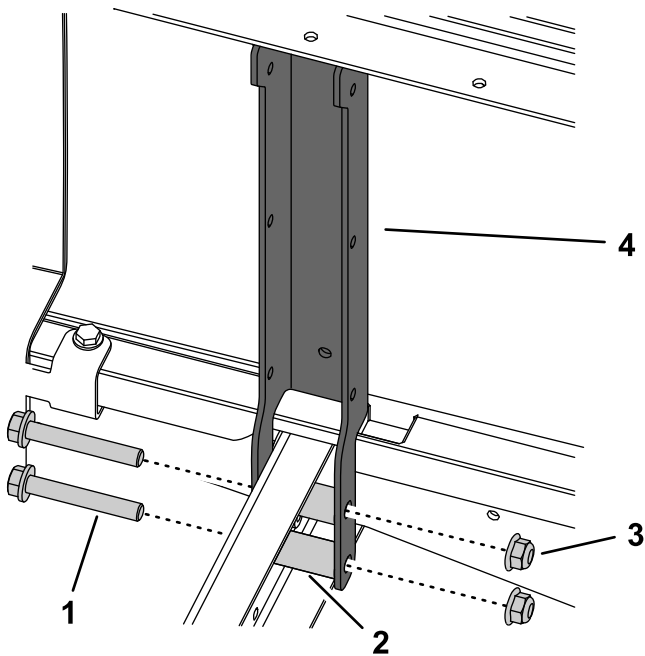

Figure 5
6. Remove the 2 bolts (3/8 x 2-1/2 inch), 2 nuts (3/8 inch), and 2 spacers from both rear seat-support channels (Figure 5). Remove the channels.